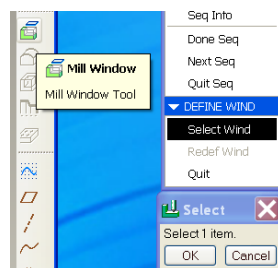

Figure 1.40
6. Select Wind window pop up as shown in figure 1.40. Since a windows had not been created, there is no windows to select. Click on Mill Windows